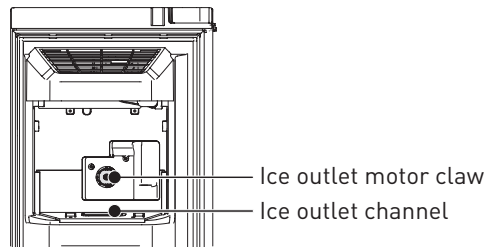

Figure 3
- Do not put your hands or any objects into the ice outlet channel, otherwise, it may cause personal injury or damage to the parts of the ice storage box. To avoid possible injury, do not touch the ice outlet motor claw with your hands, as shown in **Figure 3**.